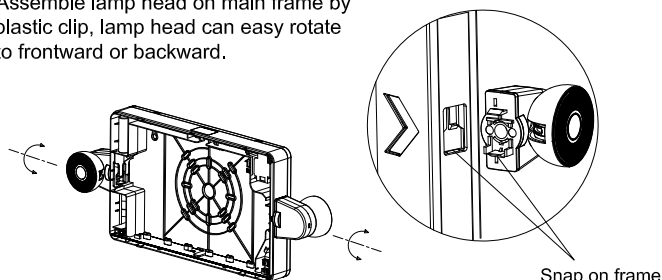

Fig 6
3. Remove side hole plug from housing, snap lamp heads on the unit and connect to PC board (see Fig 6).